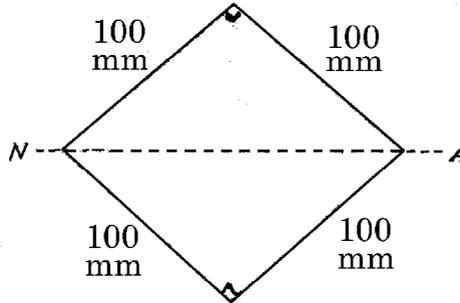

Fig. 1.1.
- (c) For the square beam shown in fig. 1.1 determine the shape factor and fully plastic moment.